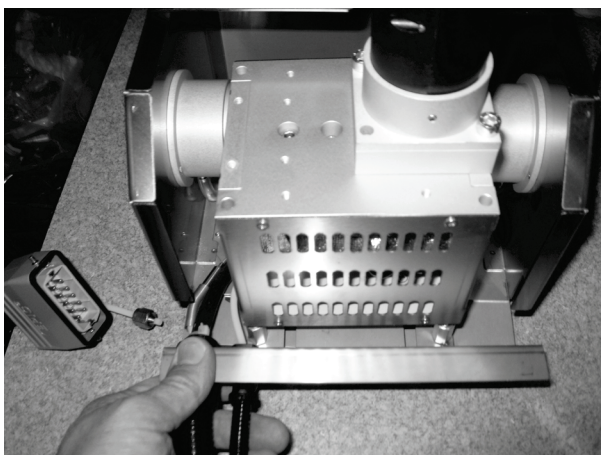

Figure 6 Removing the cell assembly from its box
6. Slide the cell holder towards you, and then carefully tilt and lift the cell assembly clear of its box (Figure 6).